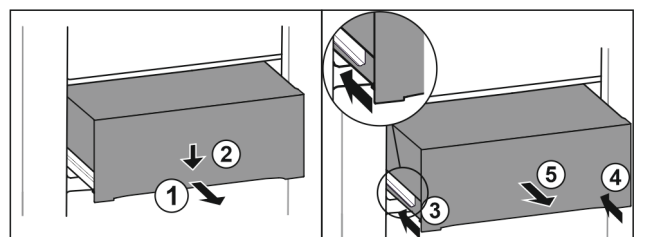

Fig. 101
- Pull out drawer half-way. *Fig. 101 (1)*
- Push the drawer down at the front. *Fig. 101 (2)*
- Push the left rail in by about 2 cm. *Fig. 101 (3)*
- Push the right rail in by about 2 cm. *Fig. 101 (4)*
- Remove drawer to the front. *Fig. 101 (5)*